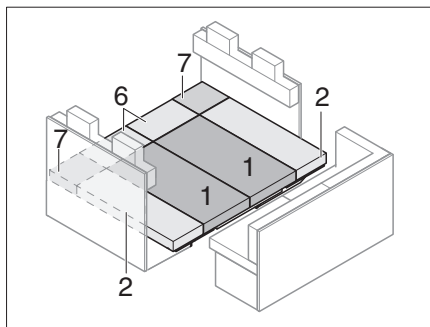

Fig. 194 After conversion
- Lay on the seat, backrest and additional cushions as shown in Fig. 194.